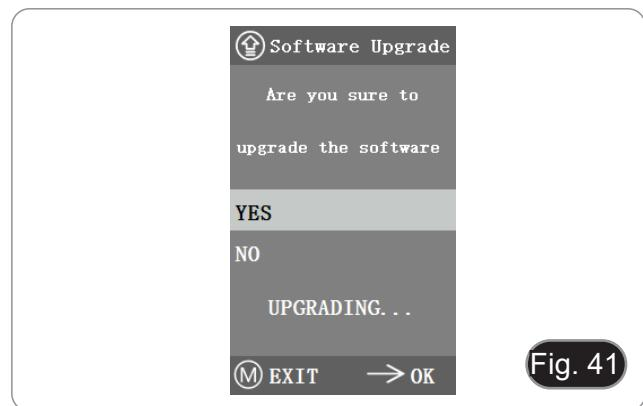

Fig. 41
1. Select "Yes" to upgrade, and the following message will appear: "UPGRADING..." while the system is being upgraded. (Fig 41)